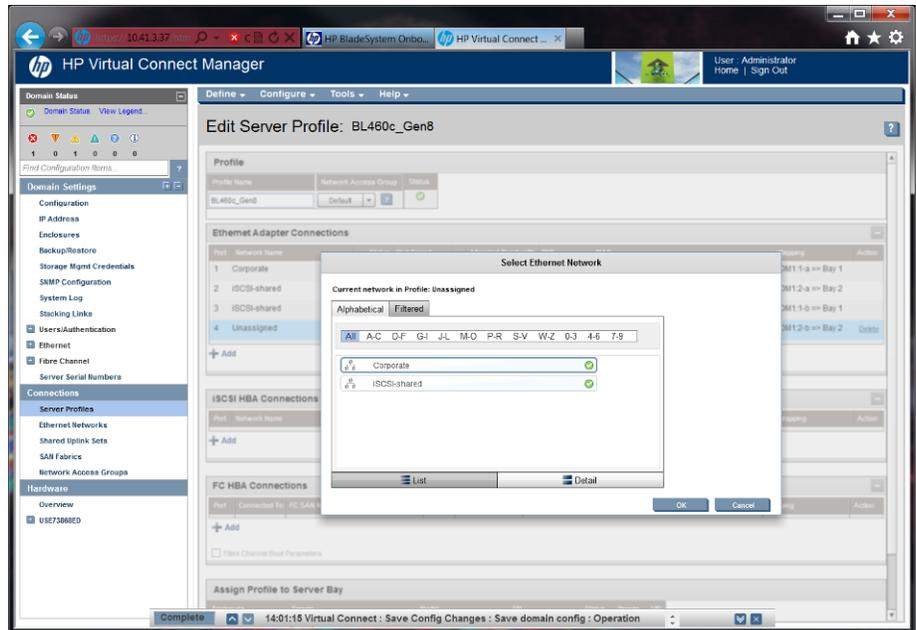

Figure 17: Editing the server profile.
- Entry 4: Corporate (See Figure 17.)